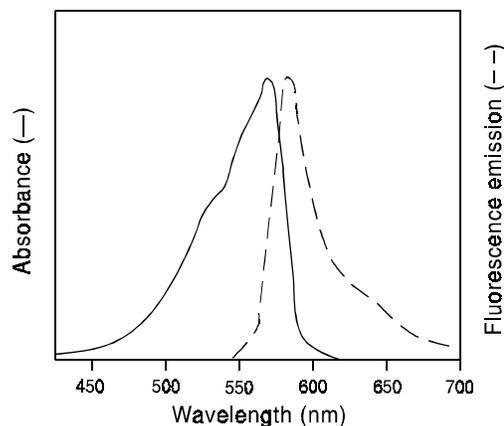

Figure 2. Normalized absorption and fluorescence emission spectra.
Resorufin has absorption and fluorescence emission maxima of approximately 571 nm and 585 nm, respectively (Figure 2). Because the absorbance is strong, the assay can be performed either fluorometrically or spectrophotometrically.
2.10 Measure the fluorescence or absorbance in a microplate reader using excitation in the range of 530–560 nm and emission detection at ~590 nm or absorbance at ~560 nm (see Figure 2).